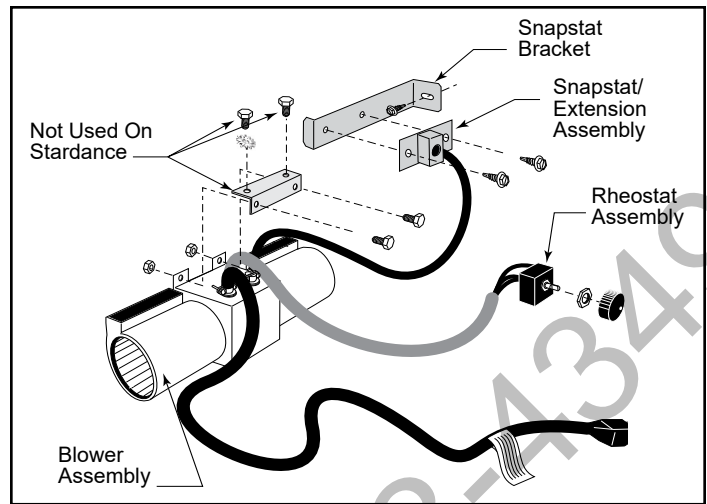

Figure 15 - Fan kit components.
1. The fan kit includes a Blower Assembly and a Rheostat Assembly, connected by a cable. (Figure 15) The Blower Assembly mounts to the bottom rear of the stove, and the Rheostat mounts to the valve cover plate. The assembly includes a 'snapstat' which automatically turns the fan On (or Off) above (or below) approximately 109°. The Rheostat also provides a range of fan speed settings from Off (which overrides the snapstat function) to High. Unpack and inspect the Blower assembly. Confirm that the fan spins freely.